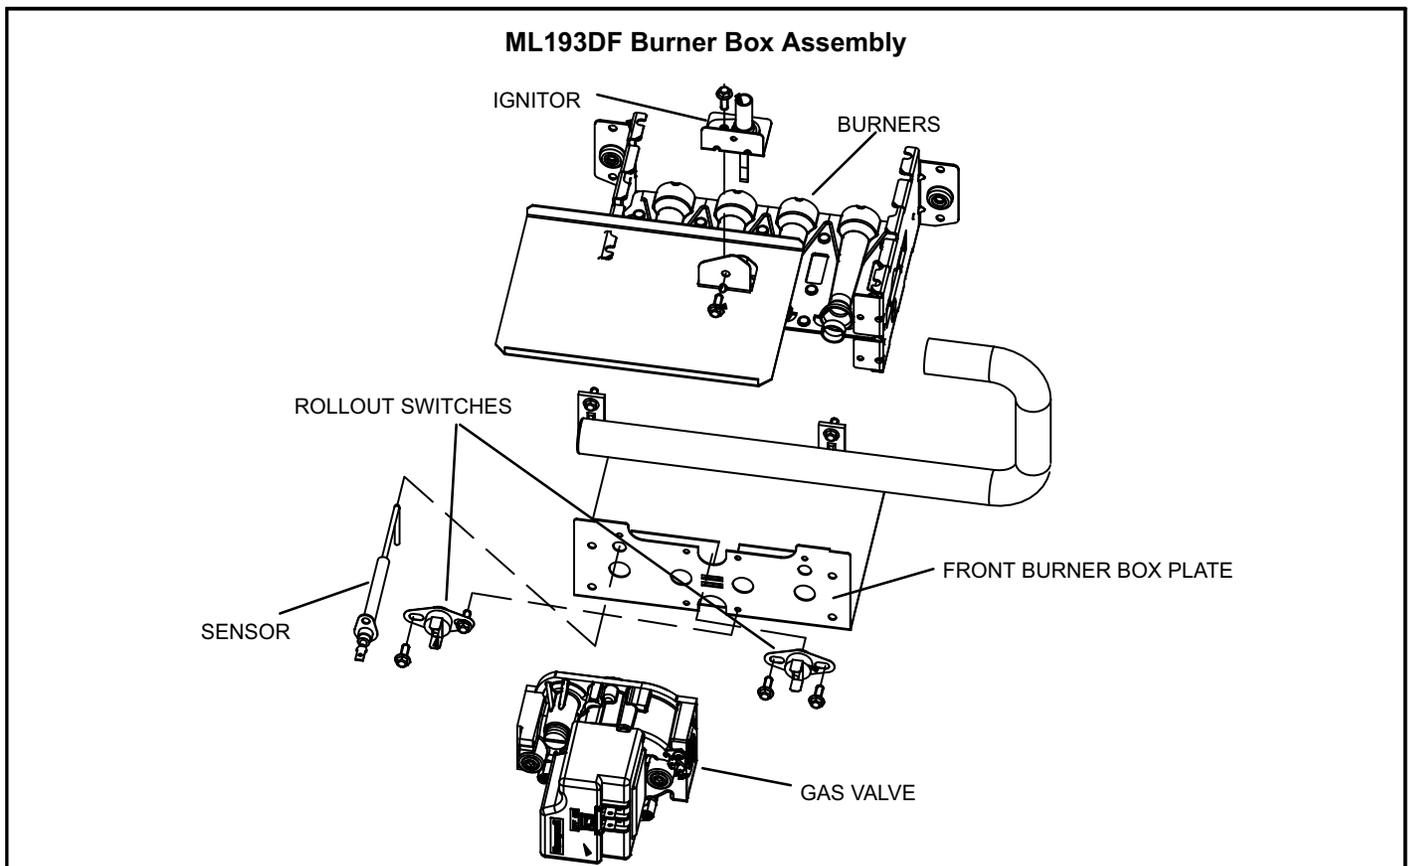

FIGURE 6
The ignition control system consists of an integrated control (figure 4) ignitor (figure 6) and sensor (figure 6). The integrated control and ignitor work in combination to ensure furnace ignition and ignitor durability. The integrated control, controls all major furnace operations. The integrated control also features two LED lights (DS1 red and DS2 green) for troubleshooting and two accessory terminals rated at (1) one amp. The integrated control also features a (3) amp fuse for overcurrent protection. Tables 1 and 2 show jack plug terminal designations. See table 3 for troubleshooting diagnostic codes. The mini-nitride ignitor is made from a non-porous, high strength proprietary ceramic material that provides long life and trouble free maintenance. The integrated control continuously monitors line voltage and maintains the ignitor power at a consistent level to provide proper lighting and maximum ignitor life.
### 1. Ignitor (Figure 6)
### 2. Flame Sensor (Figure 6)
### 3. Flame Rollout Switches (Figure 6)